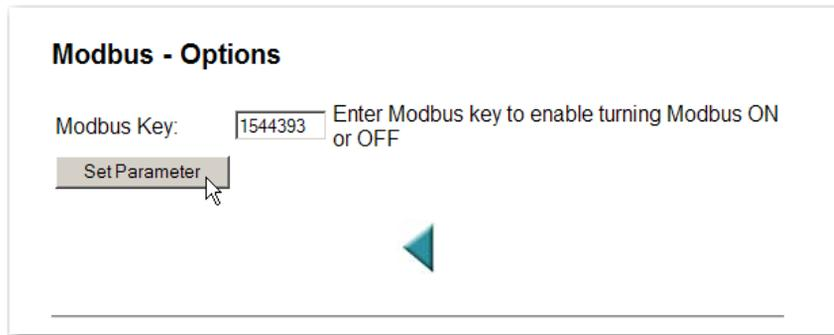

FIG. 227 MODBUS - OPTIONS PAGE
Step 4. Click on Modbus. MODBUS-Options page appears. (See Fig. 227)